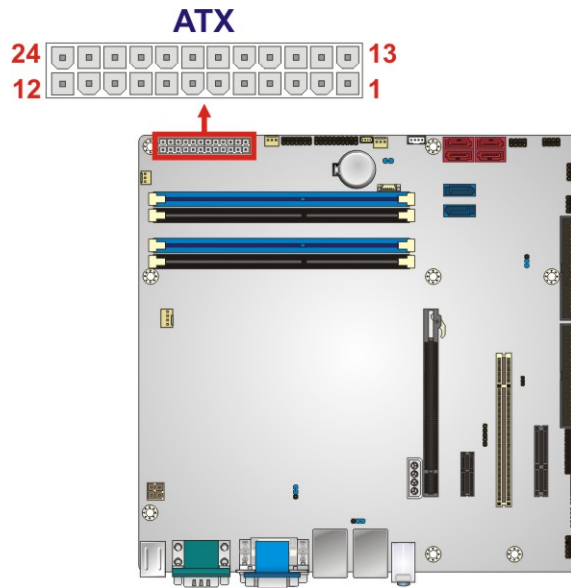

Figure 3-2: ATX/AT Power Connector Pinout Location
- CN Location:** See **Figure 3-2**